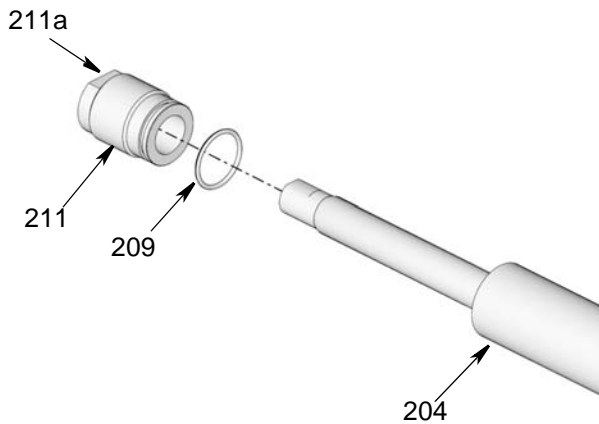

FIG. 43
15. Apply a thin layer of grease to o-ring (209) and install around the seal retainer (211) (FIG. 43).
16. Thread seal retainer (211) to pump cylinder (204) with the seal end installed inside the pump cylinder as shown in FIG. 43. Use a wrench on the nut (211a) to tighten adapter nut securely. Torque to 18-22 ft lbs (24 - 30 N.m).